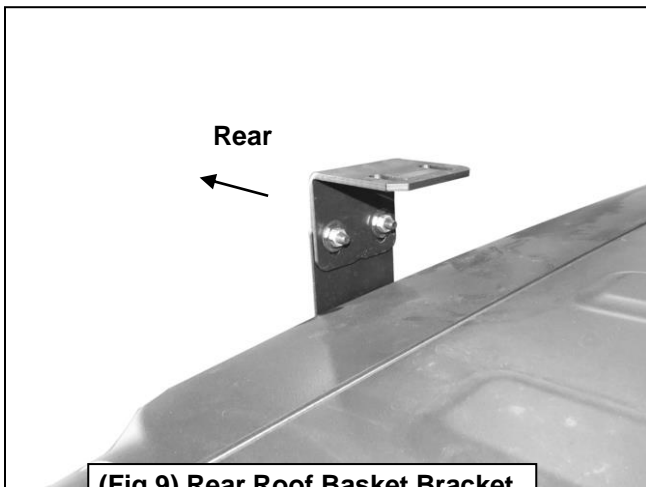

**Fig 5**
- a. Select the driver side Light Bracket. Attach the Bracket to the Front Panel with (1) 8mm x 25mm Button Head Bolt, (2) 8mm x 24mm Flat Washers and (1) 8mm Nylon Lock Nut, **(Figure 5)**.
- c. Attach the LED Light to the Brackets using (2) 8mm x 16mm Button Head Bolts, (2) 8mm Lock Washers and (2) 8mm x 16mm Flat Washers, **(Figure 5)**.